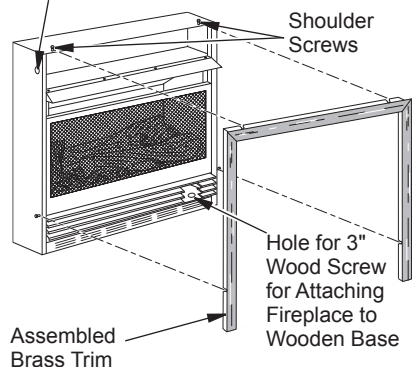

Figure 13 - Attaching Brass Trim to Fireplace
5. Firmly snap brass trim kit on shoulder screws. Shoulder screws are located on fireplace cabinet (see Figure 13).
7. Use two 3" wood screws provided and attach fireplace base to wooden base (see Figure 13).
- Place brass trim kit on the shoulder screws located on the side and top of the fireplace. Firmly snap the brass trim over the shoulder screws on fireplace (see Figure 13, page 12).
- Adjust assembly to remove any gaps. Attach remaining two 3" wood screws from hardware pack through openings inside of fireplace sides into the mantel. The openings are located at top behind the area for the louvers (see Figure 13, page 12).